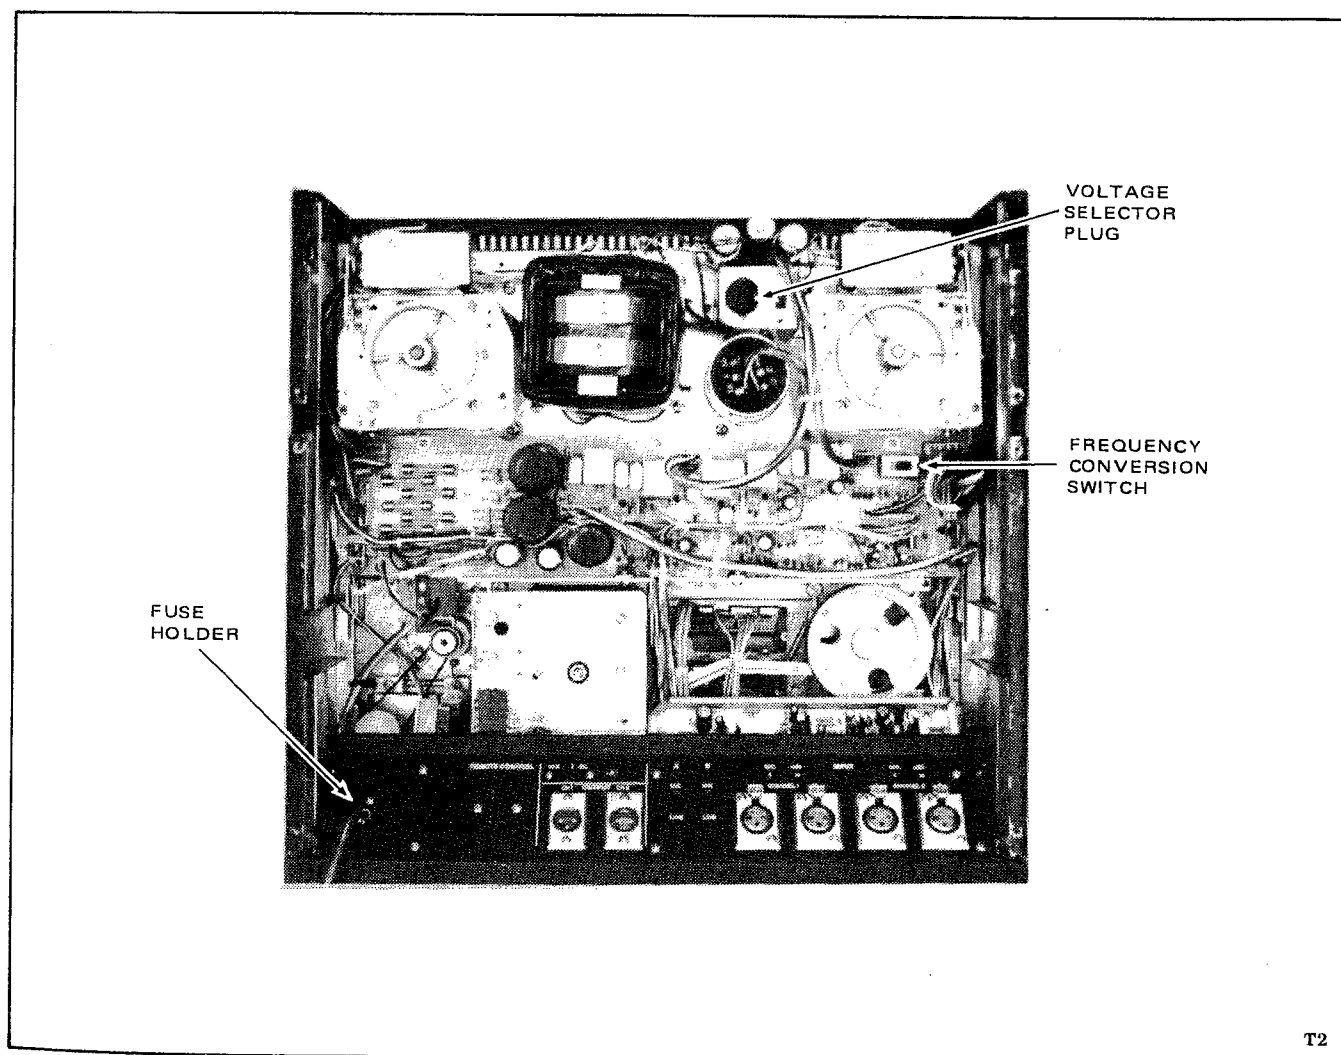
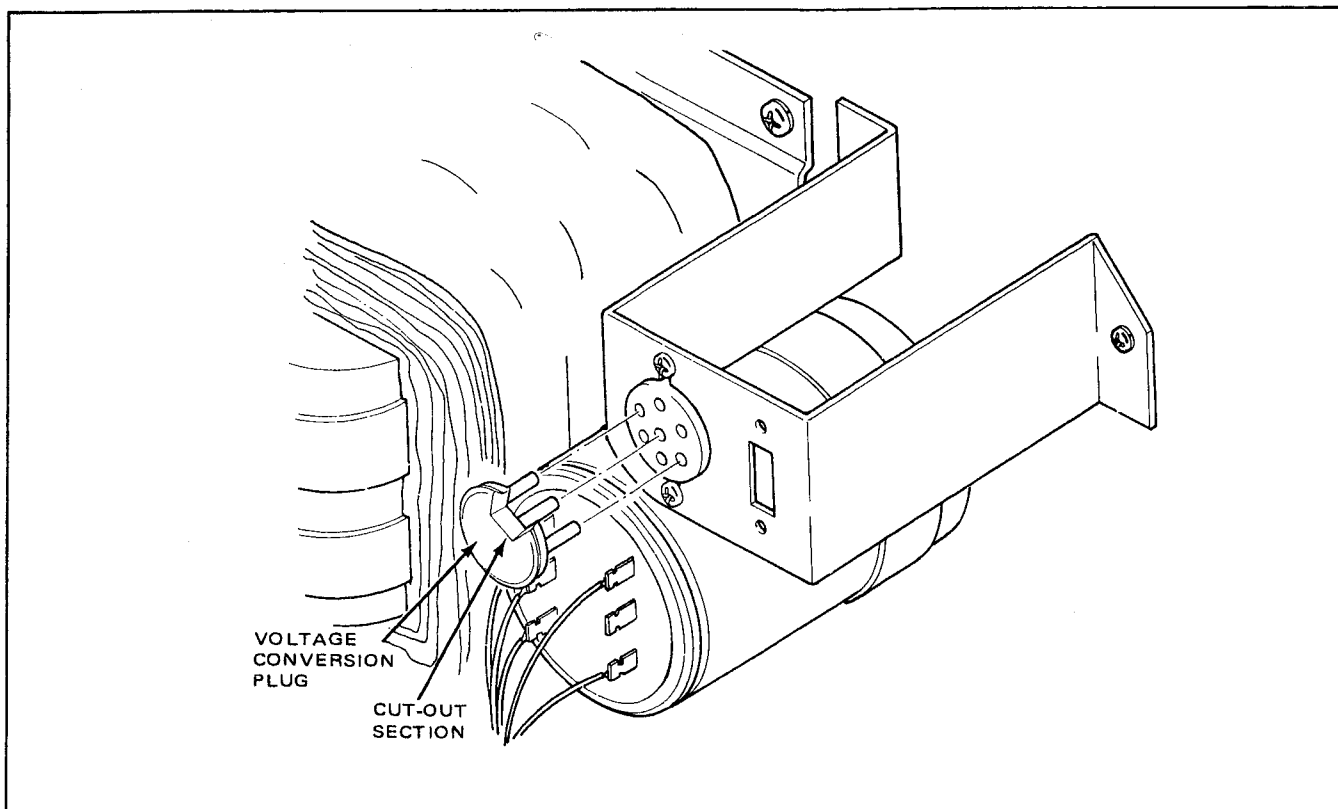
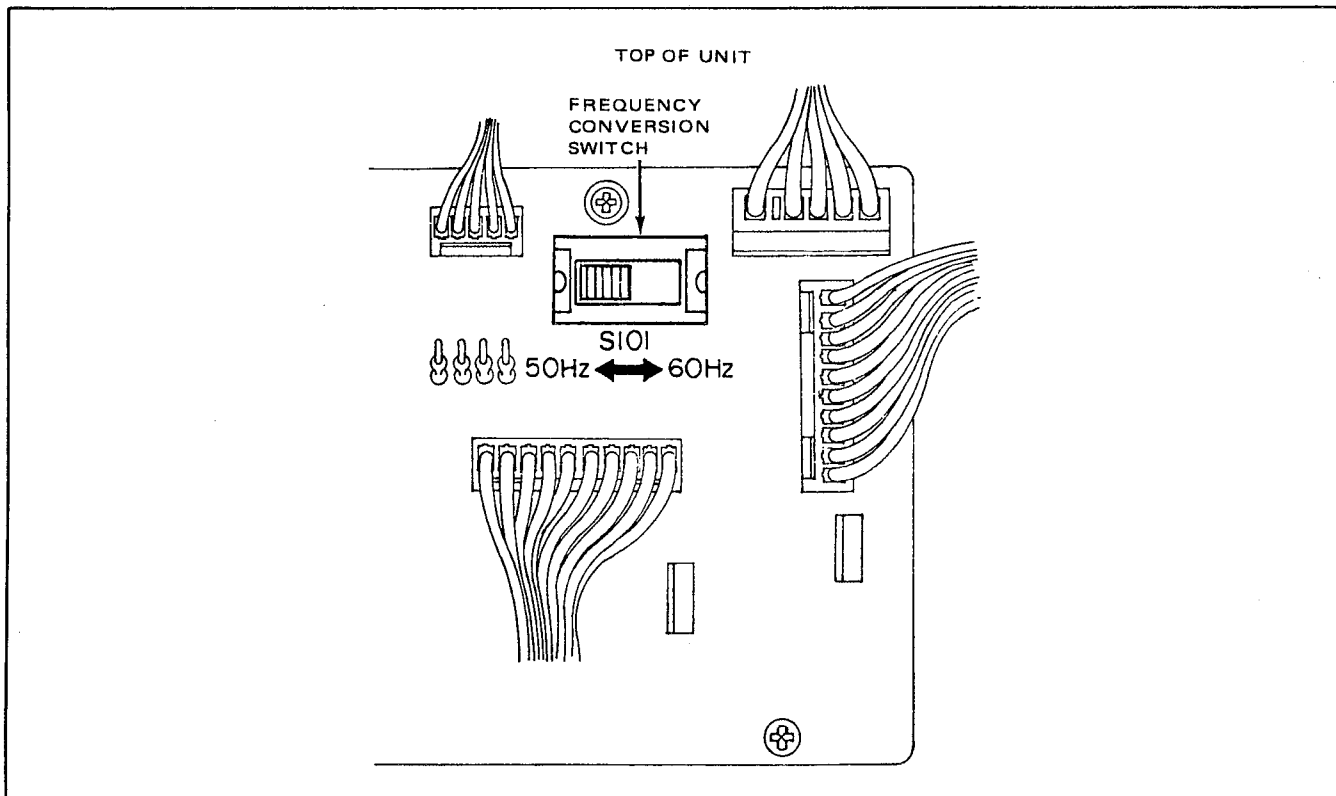

Figure 2-5. Voltage and Frequency Conversion
Figure 2-6. Voltage Conversion Plug
Figure 2-7. 50 Hz/60 Hz Frequency Conversion Switch
4. Locate the voltage selector plug just to the left of the supply reel motor as viewed from the rear of the deck (see Figure 2-5). Pull out to remove plug, and reinsert it so that the required voltage is indicated in the cut-out section of the plug (see Figure 2-6).
FUSE HOLDER SHOWN IN FIGURE 2-5.**
5. Locate the frequency conversion switch just below the supply reel motor (Figure 2-5) and check that the selected frequency (50 or 60 Hz) matches the frequency of the power line at the installation site. If not, change the switch setting (shown in Figure 2-7) to correspond to the input line frequency.